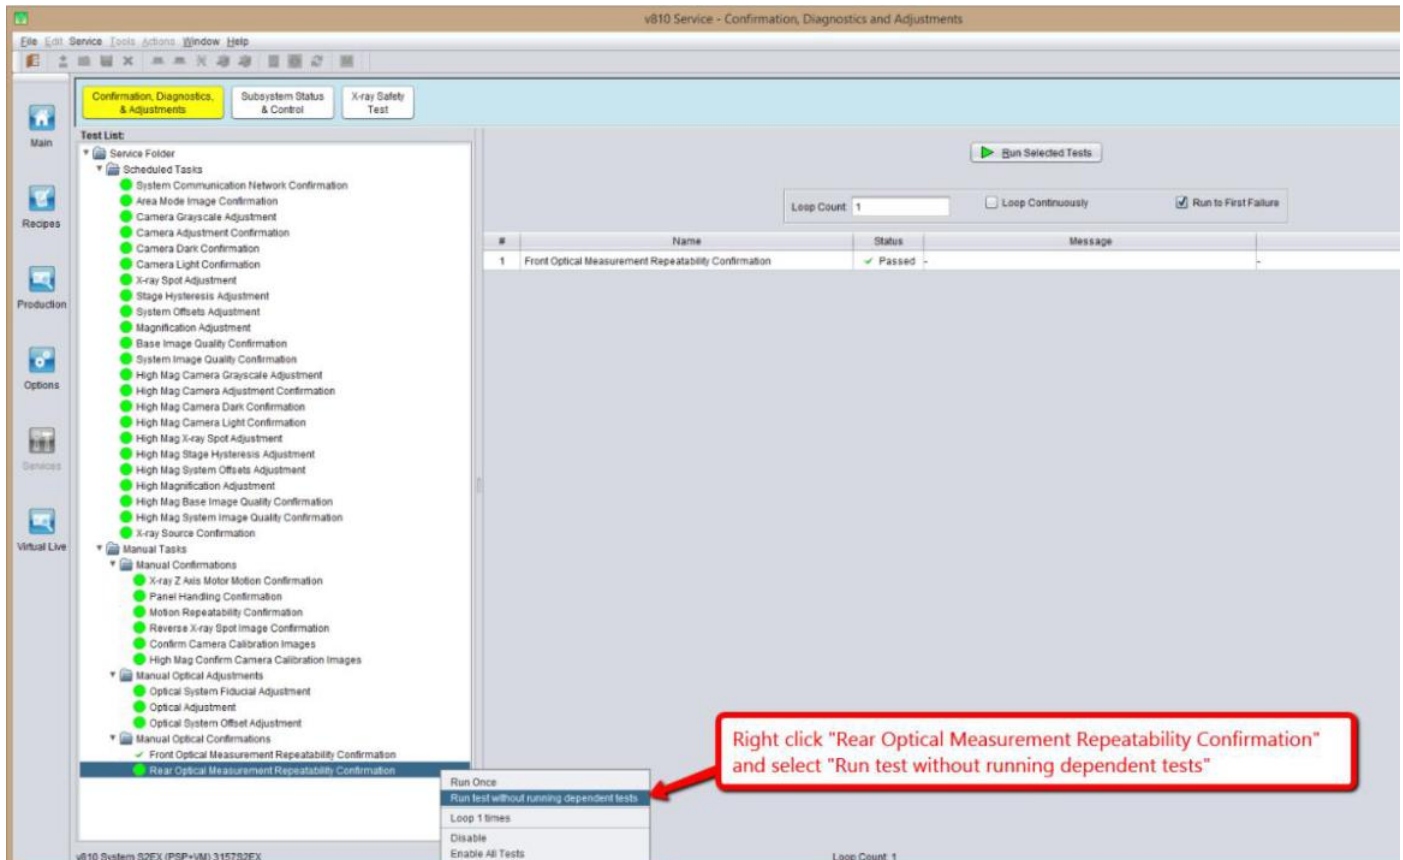

Figure 37 Rear Optical Measurement Repeatability Confirmation
28. At **Confirmation, Diagnostics and Adjustment (CD&A)**, under the **Manual Optical Confirmation**, right click **Rear Optical Measurement Repeatability Confirmation** and select **Run test without dependent tests** as shown in the Figure 37.